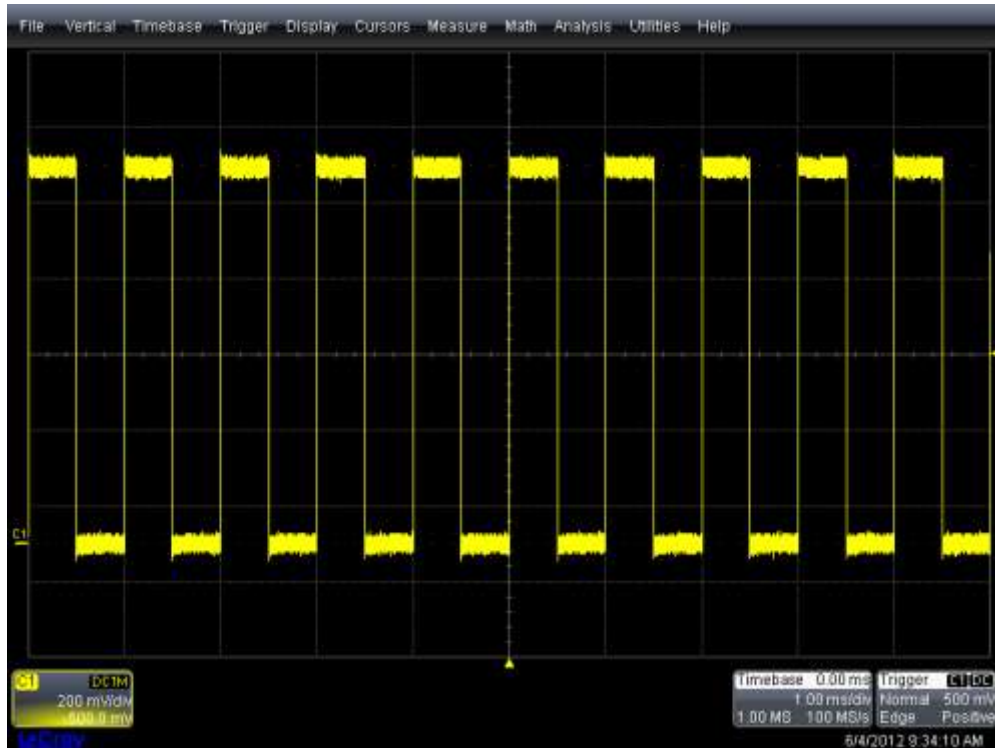
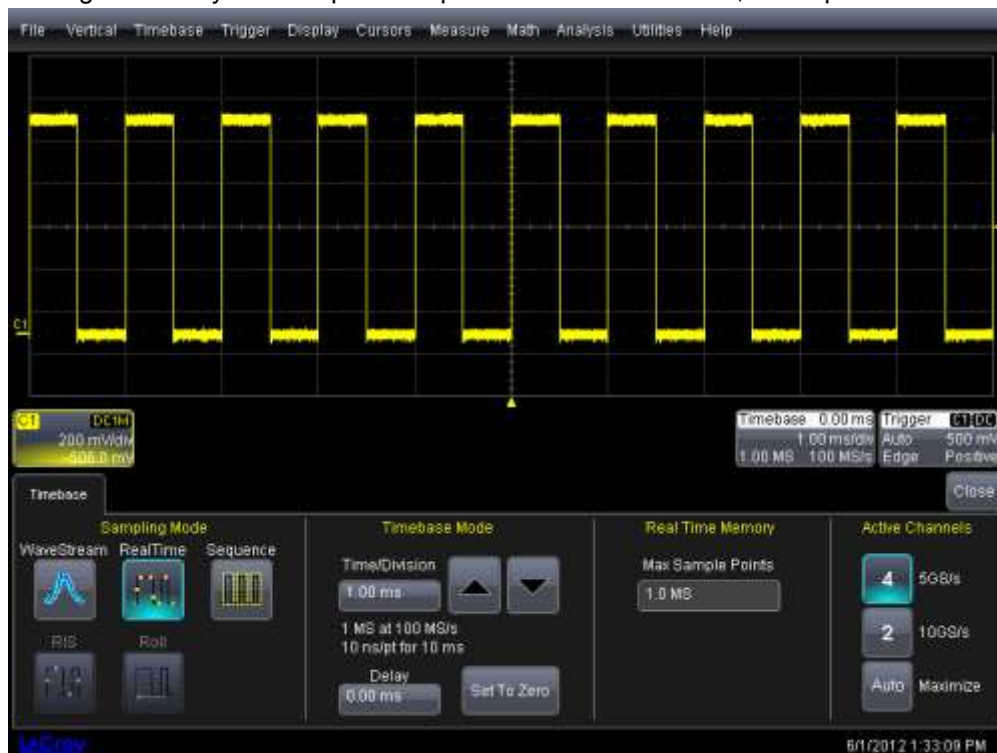

Figure 1 - The initial setup of the oscilloscope showing the 1 kHz cal signal in channel 1
Figure 2 - Touch the Timebase descriptor box brings up these selections
6. The scope display should appear as shown in Figure 1.
In the lower left corner of Figure 1 is a trace descriptor. "C1" means the data for this trace comes from the channel 1 input of the oscilloscope. The descriptor box says C1 is set for DC coupling and 1Mohm input impedance. It also shows the sensitivity setting is 200 mv/div and the DC offset is -508 mv. Note on the front panel of the scope that only the "C1" button is lighted. That is because C1 is the only channel which is in use. You can turn channels on/off by pressing their buttons in the Vertical section of the front panel. This section has one knob which controls sensitivity and one for DC offset. These knobs will control the volts/div and offset of the "active" channel. The active channel is depicted by highlighting of the descriptor box.
The Horizontal controls affect all the input channels. The two knobs control the time/div and delay. The acquisition timebase is shown in a box toward the lower right corner of the screen. In Figure 1 the timebase is 1.00 ms/div and the delay is 0.00 ms. Note this box also reports the amount of samples which are being acquired (1.00 MS) and the sampling rate (100 MS/s). Try changing the time/div knob. The trace will expand/contract and the time/div will change in the timebase box. The WaveSurfer will automatically assign memory to keep the sampling rate as high as possible for each time/div setting. Figure 2 shows the menu that appears when the Timebase descriptor is touched. The user can assign less than the maximum memory if desired and can also tell the scope to go into 2 channel mode which doubles the sample rate and assigns twice as much memory to the two active channels. Normally it is best to use the maximum memory. If a shorter memory is selected, read the short description of the acquisition setup under the heading "Timebase Mode" to make sure the scope is doing what you want. In Figure 2 it says the scope will capture "1 MS at 100 MS/s ; 10 ns/pt for 10 ms."
Try changing the delay knob. This controls the delay time between the trigger and the signals on the screen. The trigger time is indicated by a yellow triangle at the bottom of the grid in Figure 1. Changing the delay setting moves the trigger time relative to the signal. The trigger time can be all the way on the right hand edge of the screen (meaning all the data is acquired pre-trigger) or it can be moved off the screen to the left (meaning the signal on the screen is being acquired post-trigger).